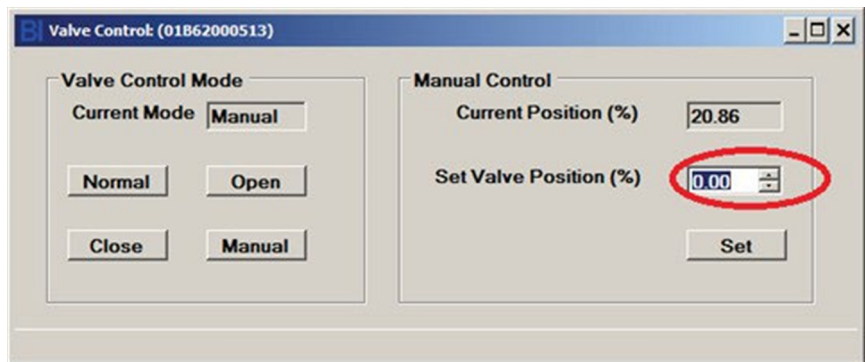

Figure 3-6 Example Numeric Up/Down Control
- Text fields with a gray background display a read-only value (such as the Current Position (%) in Figure 3-6).
- Text fields with a white background are editable (such as Set Point Position (%) in Figure 3-6).
Many windows also require numeric input from the user. This type of window is also called a “form”. For numeric input, forms often feature numeric up/down controls. See Figure 3-6 for an example of a numeric up/down control (circled).